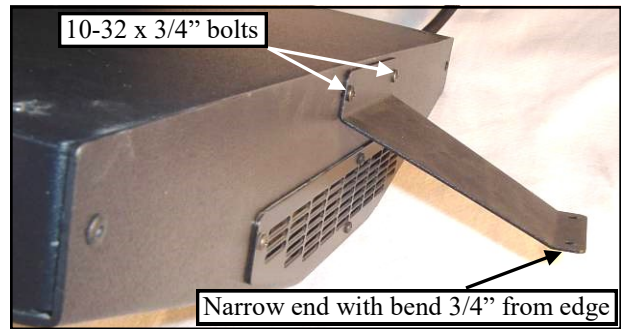

Figure 2.1 (side view of heater unit front)
2.1 Per fig. 2.1, attach the Heater Mount 4 to the front of the heater unit using two 10-32 x 3/4" long Phillips head bolts. Tighten both bolts.